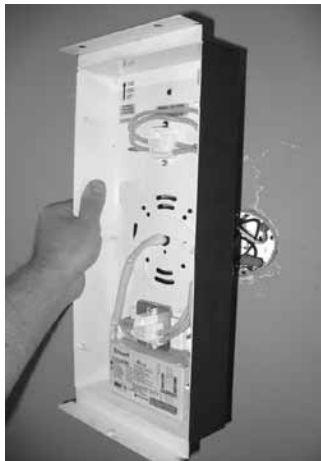

Figure 1
Step 4 Make wire connections between the fixture and power supply wires. Connect the white fixture wire to the neutral supply wire; typically white, connect the black fixture wire to the hot supplywire; typically black, connect the copper fixture wire to the ground wire and/or the ground terminal in the outlet box. Push all connections inside of junction box. (Fig 1)